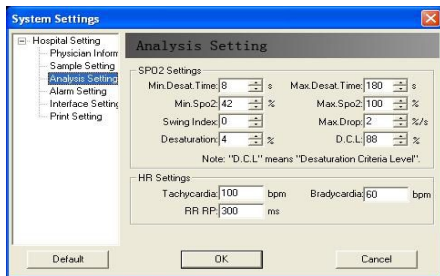

Fig.6-24
- ◆ "Analysis Setting" includes SpO₂ analysis setting and heart rate analysis setting (Fig.6-24).